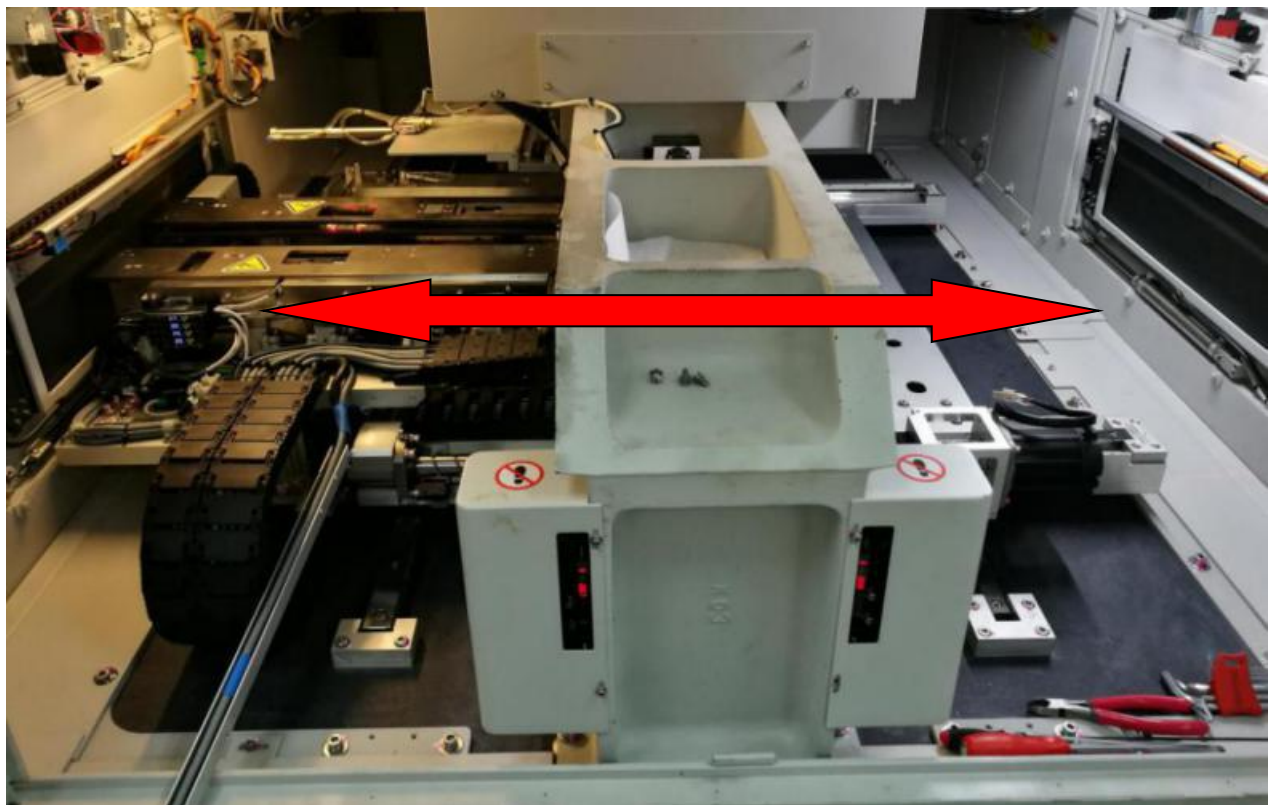

Figure 26
6. Push X-Axis stage to “left and right” for several times as shown in Figure 26. Make sure X-Axis stage is moving smoothly and the cables are well-routed. If not, need to open E-chain and re-route the cables.